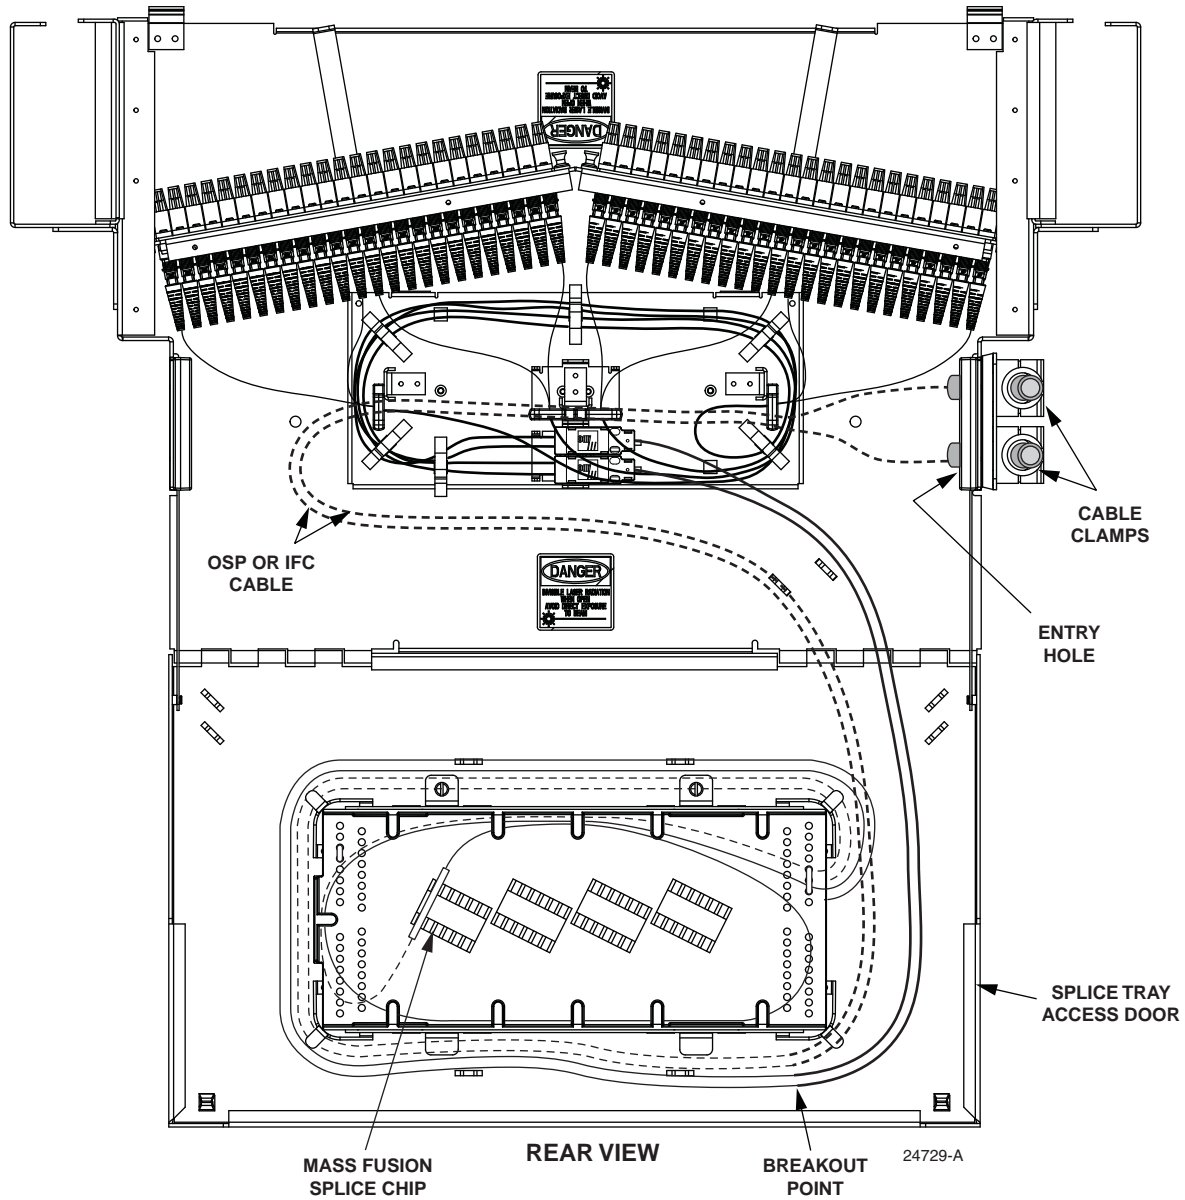

Figure 13. Cable Routing
2. Loop the cable clockwise around the splice tray as shown in Figure 13.